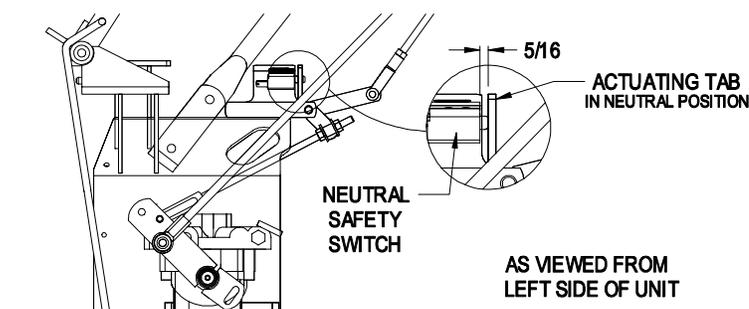

FIGURE 8
2. Move speed control lever (located on console) to the full forward position and check orientation of tabs on the ends of the speed control crank. See Figure 8. These tabs should be pointing straight down at the 6 o'clock position or slightly forward. Adjust threaded yoke at the bottom of speed control linkage until tabs are positioned correctly. See Figure 8.
3. Pull speed control lever back to neutral. Check that the neutral safety switch actuating tab has depressed the plunger of the switch so that there is about 5/16" between the tab and the switch. See Figure 8. If necessary, move the switch fore and aft.